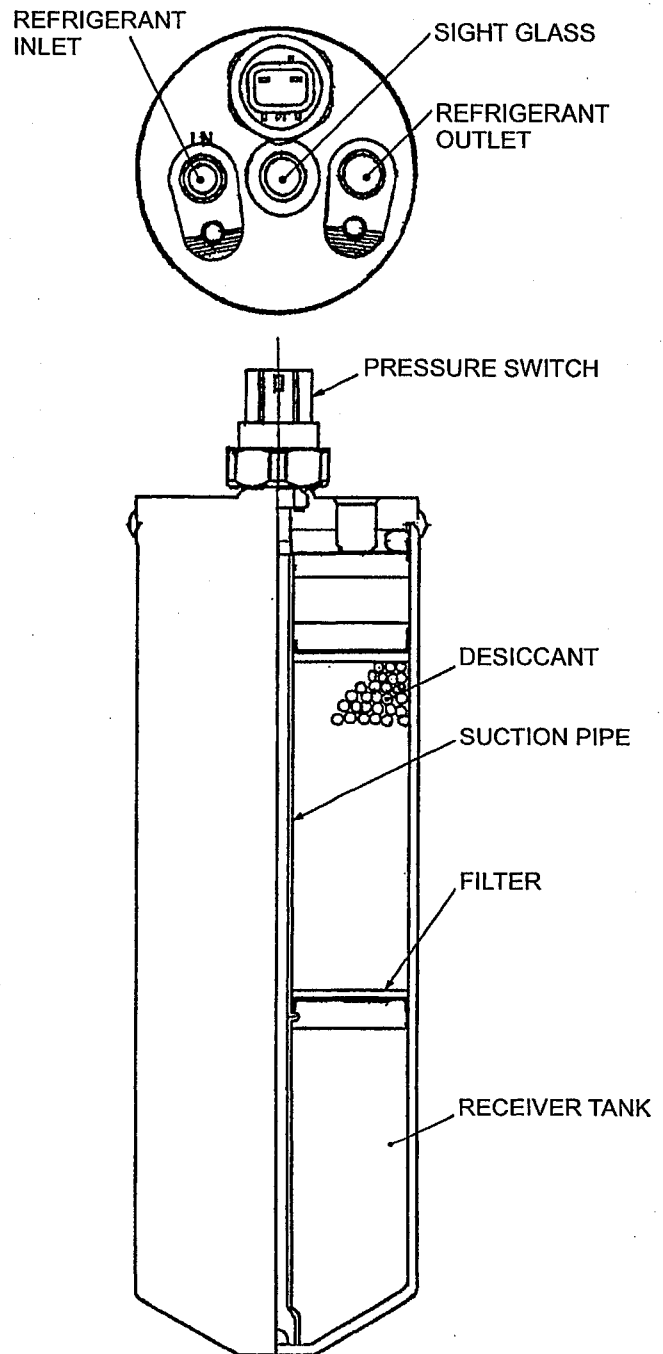

Fig. 13 Receiver dryer
(5) Receiver Dryer (See Fig.13)